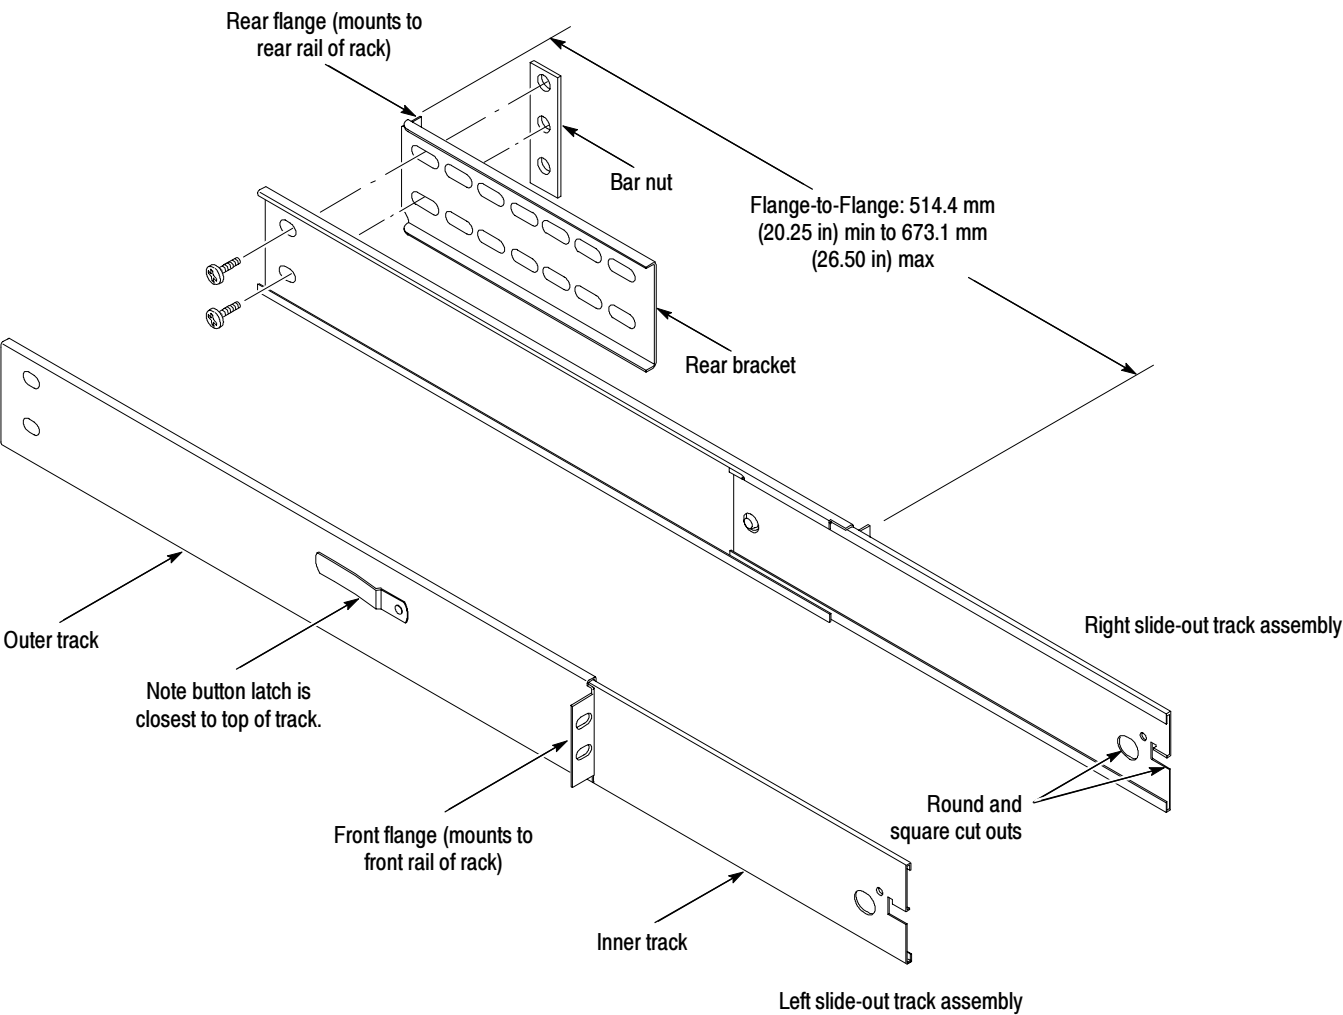

Figure 9: Assembly of slide-out track assemblies
If assemblies are disassembled, use Figure 9, page 18, to match left and right slides. (Note that when the left and right tracks are oriented as shown, the round cutout is below the square cutout at the end of the both inner tracks.)
- c. Align the rear bracket to the right slide-out track as shown in Figure 9. Note the rear bracket has multiple pairs of mount-through holes. When aligning the bracket and track, be sure to select a pair of holes that mount the rear bracket so the flange-to-flange distance (see figure) matches the front-rail to rear rail spacing of the rackmount rack just measured.